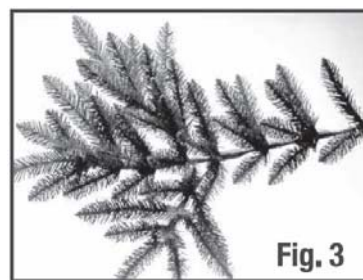

Fig. 3
Insert the Top Tree Section into the Green Plastic opening of the lower Tree assembly. This is the "Pole Cap" which keeps Tree top section securely in place(Figure 3). For larger Trees with middle section carefully insert middle section pole(s) into bottom section pole (Figure 4) as instructed in SPECIAL NOTE ABOUT GLANT TREES below.
- 3.Each individual tip should then be spread out separately.Tips should then be bent slightly upward to add a more natural looking appearance. Figure 3 shows a typical tree Branch after shaping.